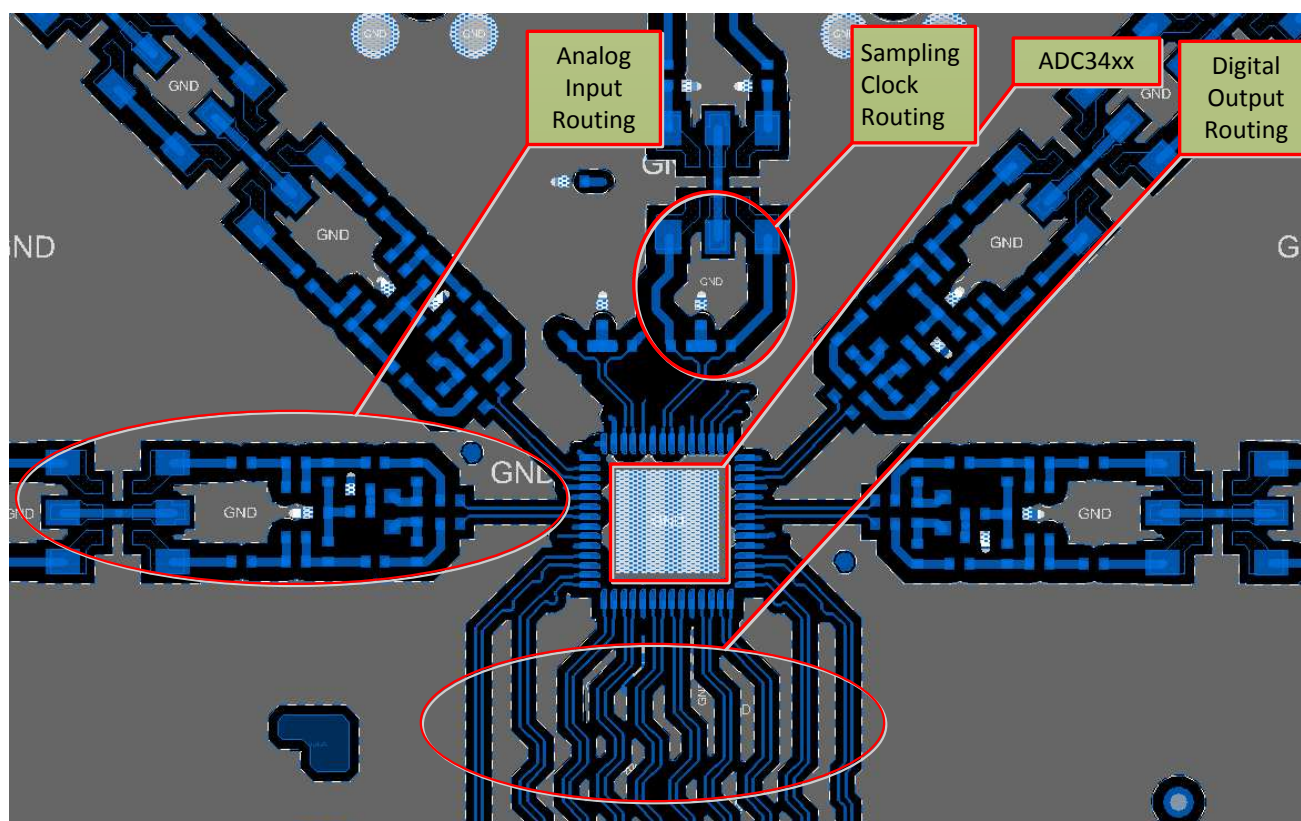

Figure 189. Typical Layout of the ADC342x Board
The ADC342x EVM layout can be used as a reference layout to obtain the best performance. A layout diagram of the EVM top layer is provided in Figure 189. Some important points to remember during laying out the board are:
1. Analog inputs are located on opposite sides of the device pin out to ensure minimum crosstalk on the package level. To minimize crosstalk onboard, the analog inputs must exit the pin out in opposite directions, as shown in the reference layout of Figure 189 as much as possible.
2. In the device pin out, the sampling clock is located on a side perpendicular to the analog inputs in order to minimize coupling between them. This configuration is also maintained on the reference layout of Figure 189 as much as possible.